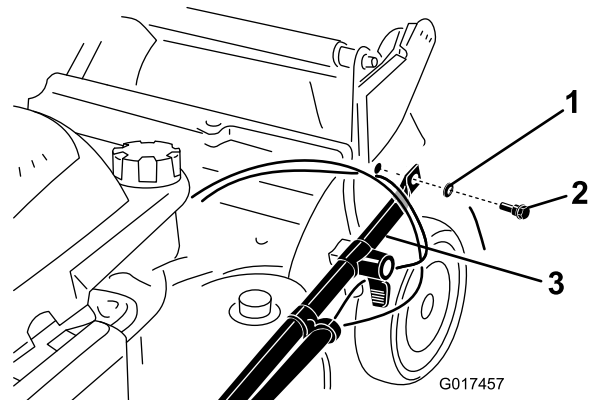

Figure 4
2. Attach the handle ends to the mower housing with 2 washers and 2 handle bolts (Figure 4), **but do not tighten the handle bolts.**
Important: Route the cables to the *outside* of the handle (Figure 4).